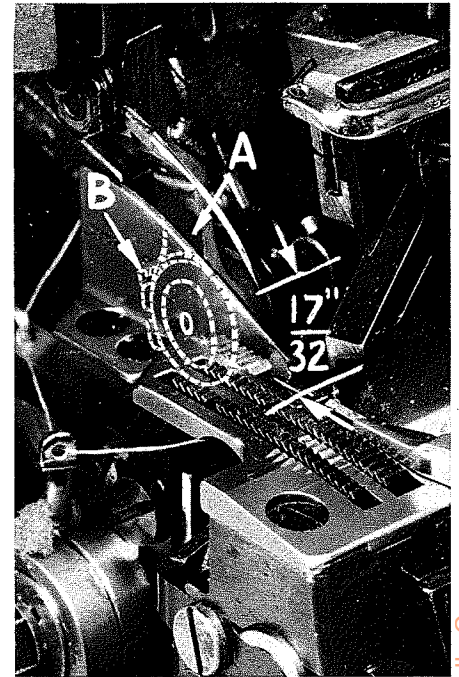

Fig. 3
With throat plate in position, needle should center in the front end of needle slot. When needle is at high position, needle point should be set  $17/32$  inch above throat plate (Fig. 3). Move needle driving arm (A, Fig. 3) by loosening clamp screw (B). Remove throat plate.